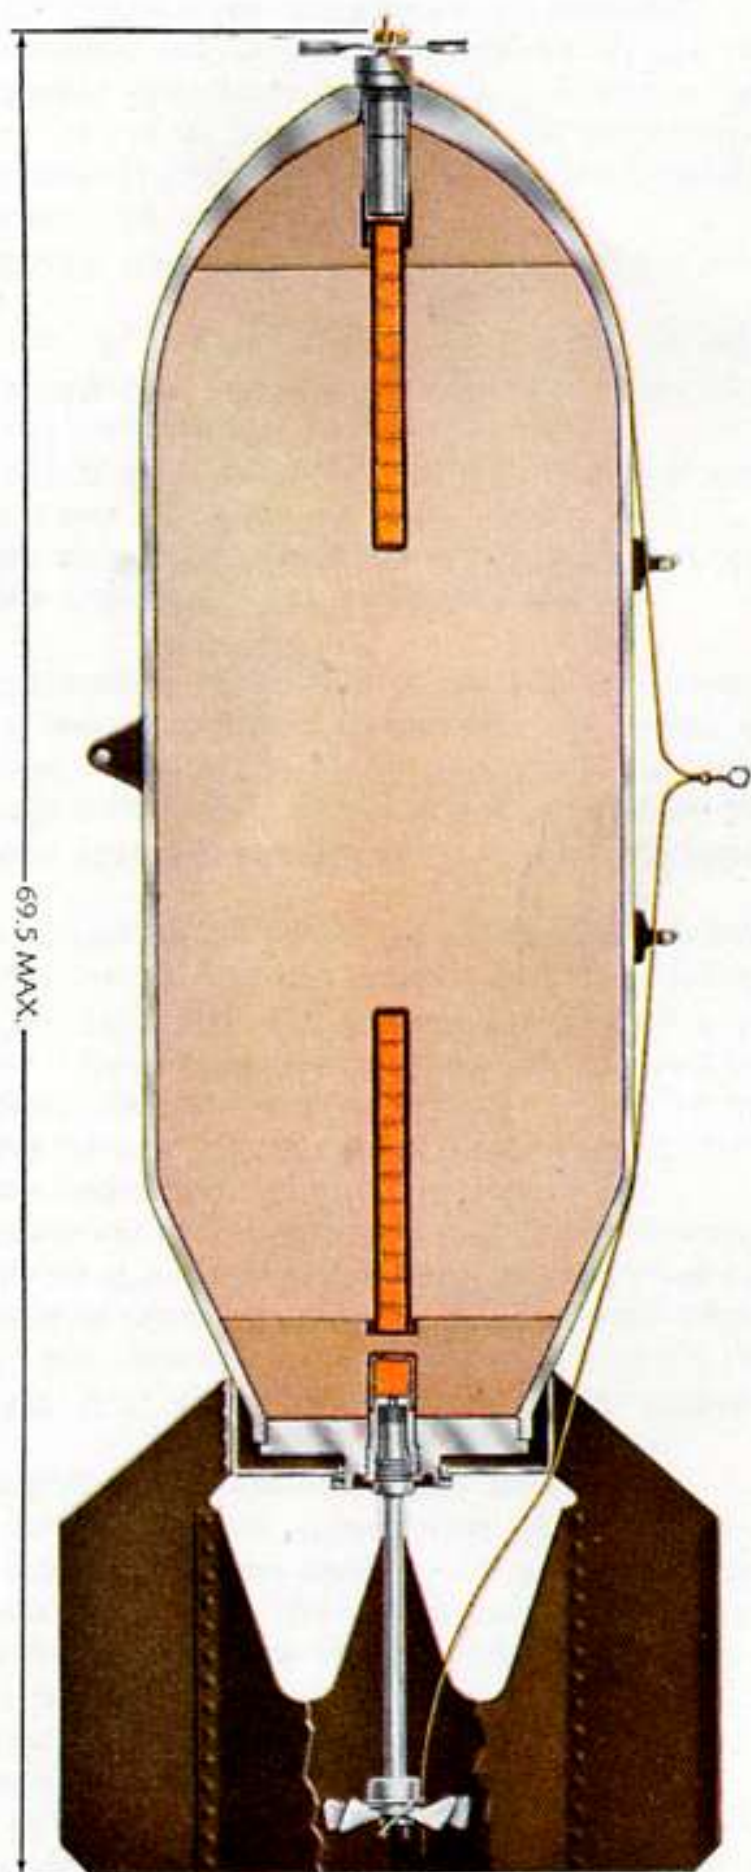

Figure 87. G.P. bomb—sectioned.
73. **DESCRIPTION AND ASSEMBLY.** a. **Description.** General-purpose (G.P.), light case (L.C.) and demolition (demo.) bombs comprise the so-called cylindrical bombs. The body of the bomb is cylindrical, tapering in an ogive to the nose and in a straight cone to the base. (See fig. 87.) A fuze seat liner is assembled in the nose. The base is closed with a large disk-shaped base plug which has a threaded extension for attaching the fin assembly. The center of the plug is closed with the adapter booster for the tail fuze. Single and double suspension lugs are welded to the side of the case. The single lug is